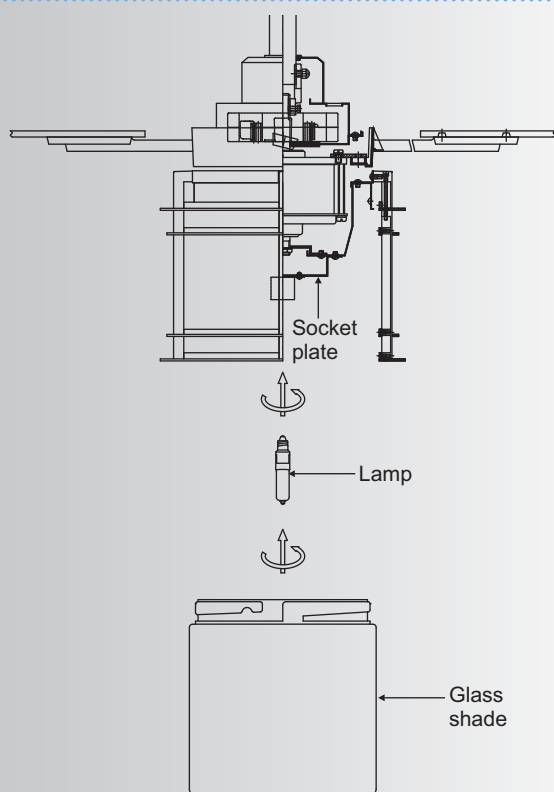

Fig. 17
Step 1. Install the 1x100W halogen bulb (included). (Fig. 17)
Step 2. Raise the glass shade against the light plate and turn clockwise until snug, **DO NOT OVERTIGHTEN.** (Fig. 17)